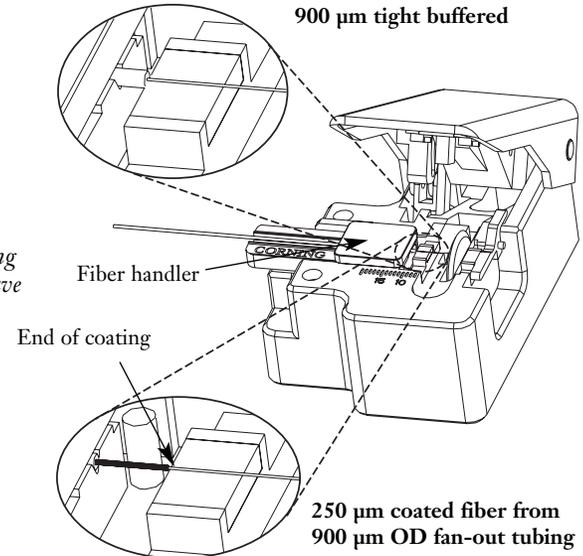

Figure 4-29
4.7-5 Position the handler in the cleaver so that the edge of the fiber coating aligns with the edge of the left-hand elastomeric pad (Figure 4-29). The coating should lightly contact the pad's edge. No pressure is required.